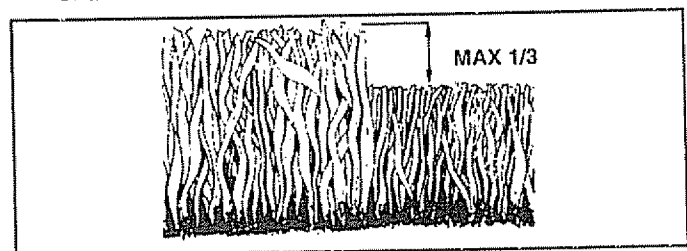

FIG. 11
- For best results, adjust the mower cutting height so that the mower cuts off only the top one-third of the grass blades (See Fig. 11) For extremely heavy mulching, reduce your width of cut and mow slowly.